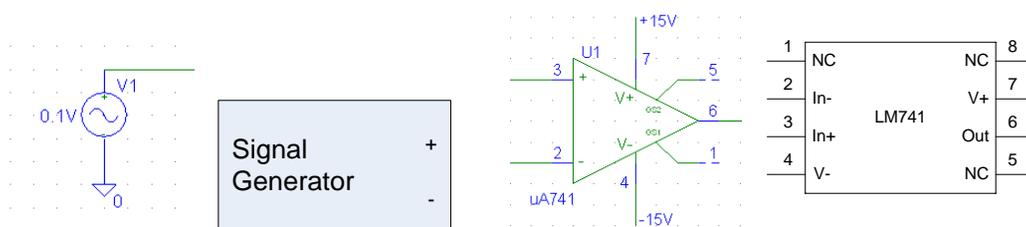

Figure 1. a) signal generator (ac source) schematic symbol, b) signal generator block, c) op-amp schematic symbol, d) op-amp block.
- a. Draw a circuit *schematic*. (A *schematic* uses circuit symbols and connects them together functionally. See Figure 1.)
- b. Draw a circuit *wiring diagram*. (A *wiring diagram* uses blocks to represent actual hardware and shows the actual wiring connections made. Discrete components (e.g. resistors, capacitors, & inductors) look the same as in a schematic. See Figure 1.)